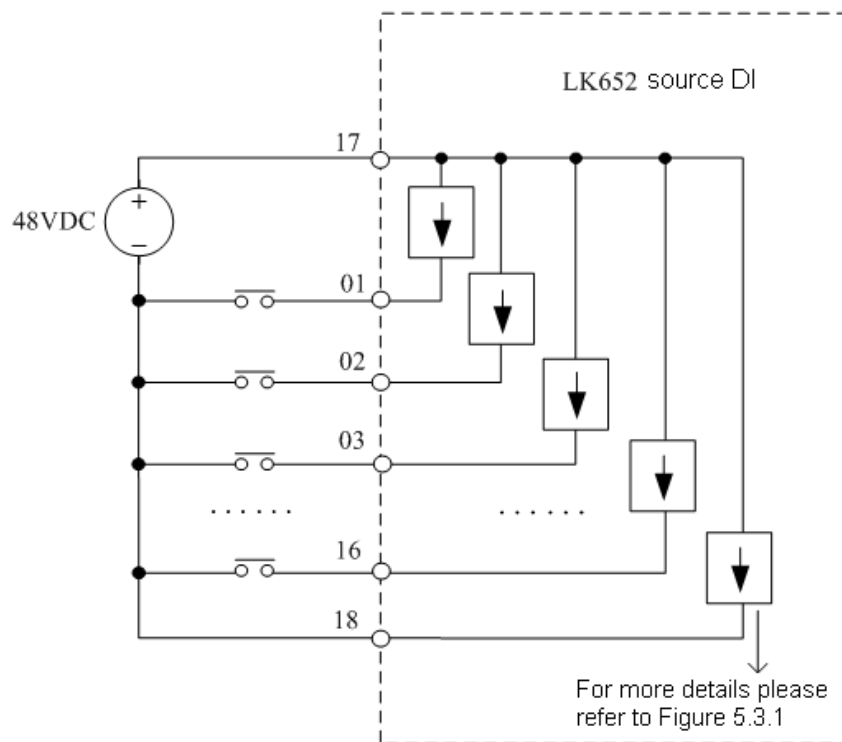

Figure 11.28: LK 652 Channel Interface of 16 Digital Inputs
- LK652 module is connected to field signals through the correspondence terminals under the local backplane installation slot. The relationship between each channel and terminal is shown in Figure 11.28. One ends of the 16 channel contacts connect to the wiring terminals (01~16) of the correspondence channels while the other ends connect to the negative end of field power supply.